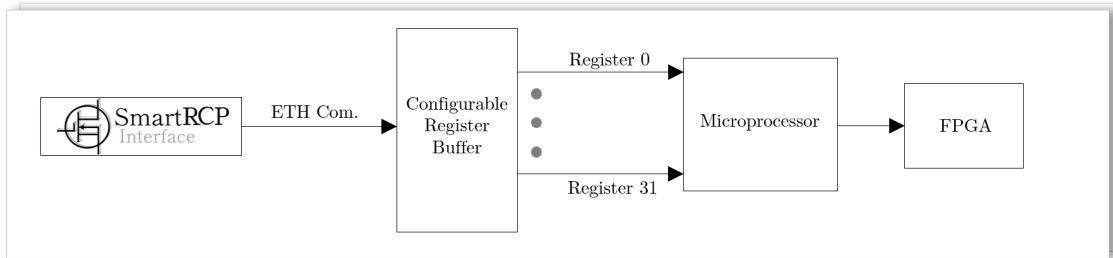

Figure 14: (a) Input-Register Configuration Window and (b) Register data-format config.
- **Input-Register Configuration.** It allows the user to select the type of data to write, either float or integer, and assign a specific value to each register. These registers will be sent to the SmartRCP hardware platform and will be available for use by the user from the microprocessor and FPGA (Fig. 14). In addition, it is possible to customize the names of the registers to facilitate their identification and to select which of them will be displayed in the configuration window.